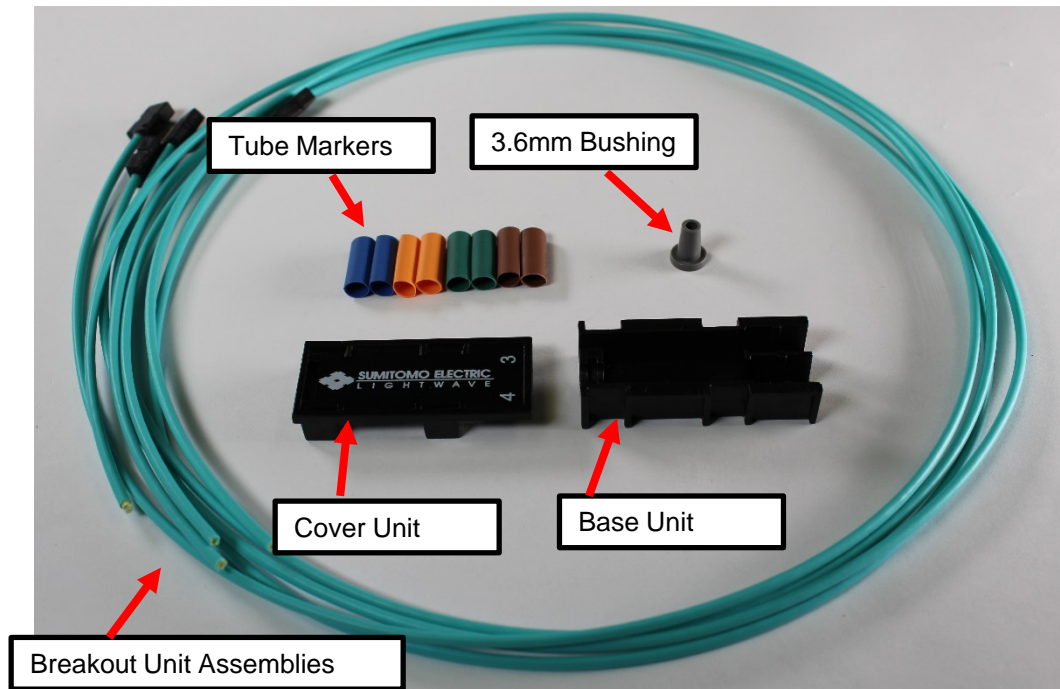

Figure 5
4.2 FT48BK-SU(or-MU) Field Termination Kit (Base Unit with Cover, four 3.8mm OD Breakout Assemblies and one 3.8mm Bushing. **See Figure 5.**